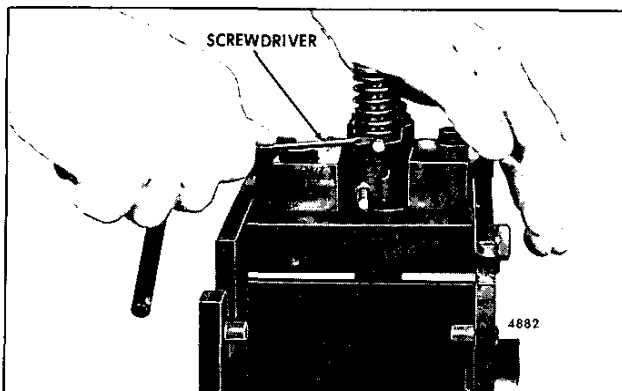

Fig. 10 - Removing Injector Follower Stop Pin
2. Compress the follower spring (Fig. 10). Then, raise the spring above the stop pin with a screwdriver and withdraw the pin. Allow the spring to rise gradually.